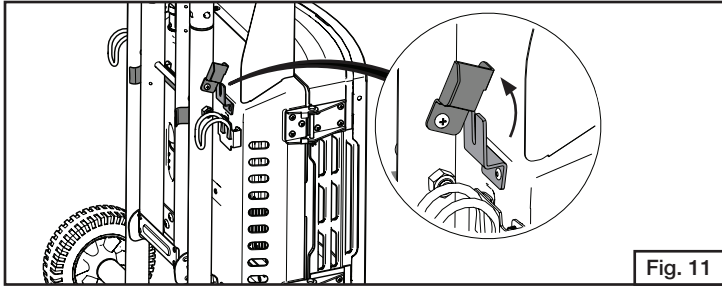

Fig. 11
- Rotate counterclockwise the leg locker to release. (Fig. 11)